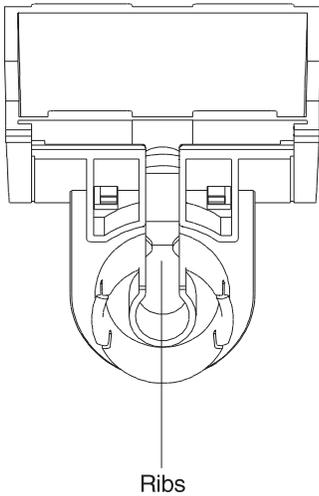

Figure 3-23. Display Holder Ribs
- 7 Tilt the display holder down and remove the cables from between the ribs. See Figure 3-23 on page 3-20.
- 2 Make sure that the cables are located inside the ribs in the tube. See Figure 3-23 on page 3-20.
- 6 Tilt the display holder to a position where you can remove the cables from between the two ribs. See Figure 3-23.